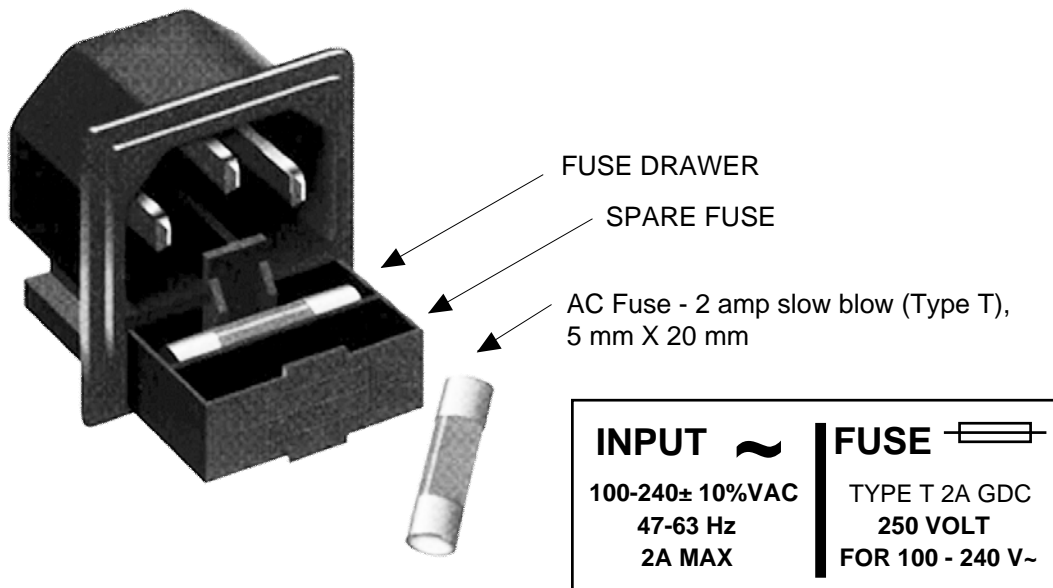

FIGURE 2.4 Fuse Location and Spare Fuse
9. AC Fuse - The AC fuse is a 5 mm X 20 mm, 2 amp slow blow (Type T) and is inserted in the far slot in the drawer below the AC input as shown in Figure 2.4. There is a spare fuse in the near slot. If a fuse continues to open, the power supply is most likely defective.